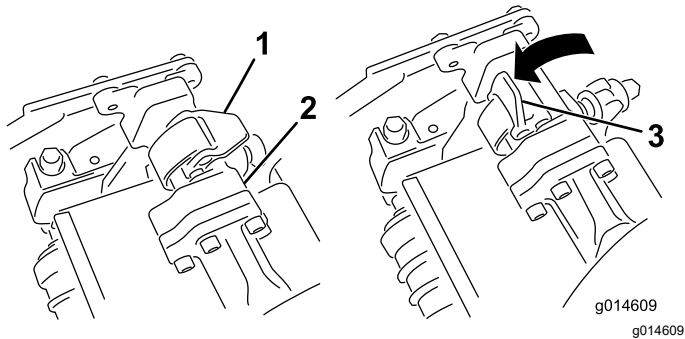
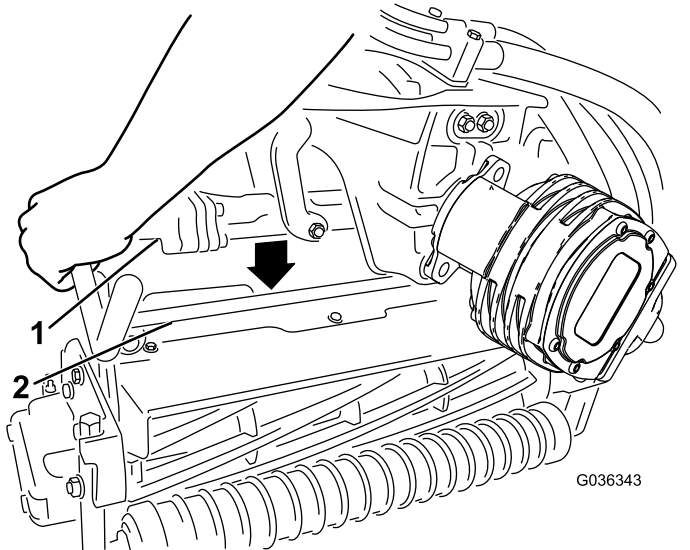

Figure 64
Figure 65
- 4. With the latches on the suspension-arm bar pointing up (i.e., open) (Figure 64), push the suspension arm down so that the bar fits over the bar across the top of the cutting unit (Figure 65).
- 5. Close the latches down and around the cutting-unit bar and lock them in place (Figure 64).
5. Open the latches on the suspension-arm bar of the cutting unit you are removing (Figure 64).